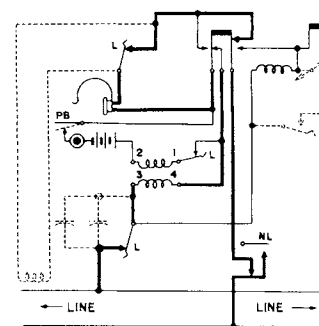

Figure 5. Circuit with key down.
- c. Down (locking): When key is operated to this position the test set may be used as a portable telephone. Finder coil is not required. Figure 5 is a schematic illustration of this circuit.